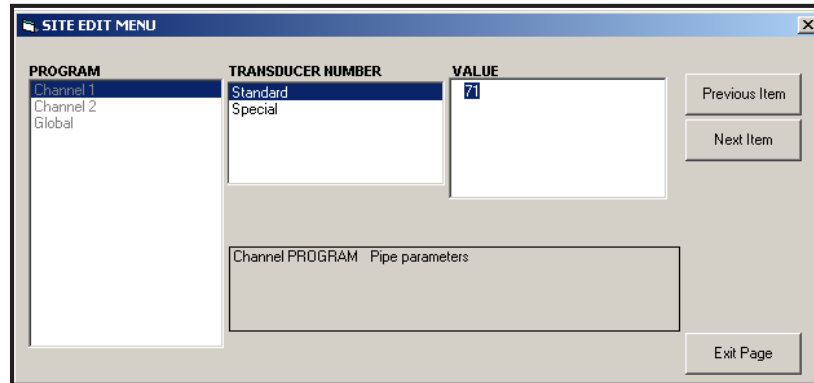

Figure 42: Pipe Parameters Option in the *Site Edit Menu*
- a. Highlight and double-click on the desired option in the center pane. Figure 42 on page 96 shows the first entry (Transducer Number) in the *Pipe Parameters* option. The title above the center pane lists the current entry, while the center pane displays the available selections for that entry.